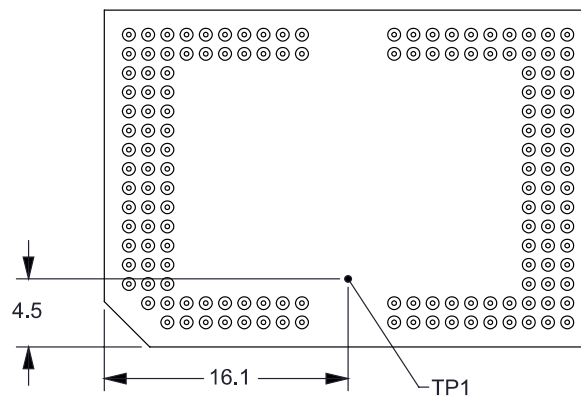

Figure 19. DMD Thermal Test Points
When designing the DMD heatsink solution, the package thermal resistance from array to reference ceramic temperature (thermocouple location TP1 in Figure 19) can be used to determine the temperature rise through the package as given by the following equations:
- T_{CERAMIC} = measured ceramic temperature, at the TP1 location in Figure 19 (°C)